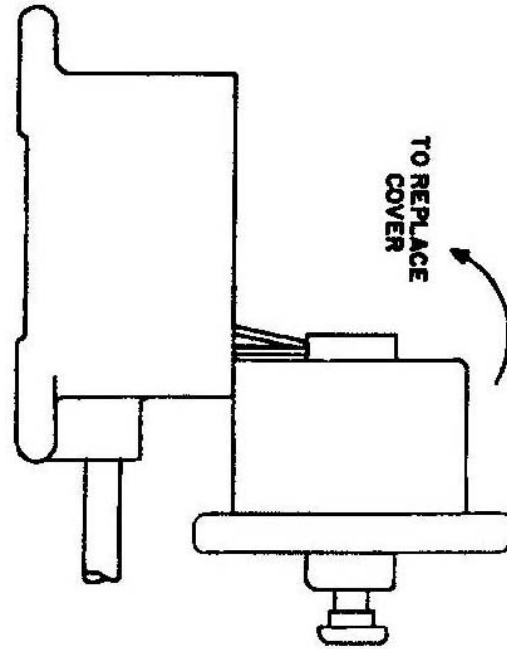

Figure 3-6
- c. Place the Vibraswitch in position shown in Figure 3-6 and connect wires to corresponding terminals.